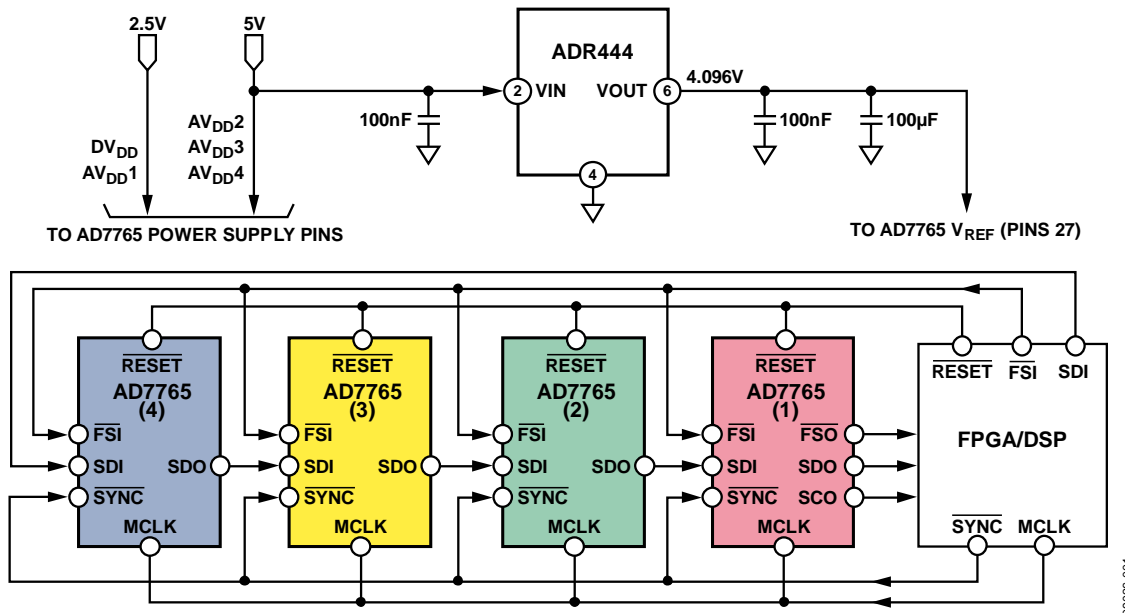
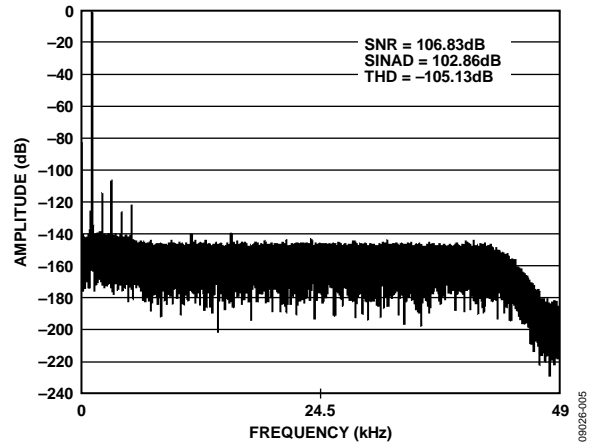

Figure 1. Four AD7765 ADCs in a Daisy-Chained Connection for Simultaneous Sampling (Simplified Schematic: All Connections and Decoupling Not Shown)
Figure 5. FFT Output for 1 kHz Input Signal with Sampling Rate of 97.65 kSPS, 25 MHz MCLK 100 μF Reference Star Point Capacitor. 131,072 Samples.
The circuit shown in Figure 1 provides a high dynamic range four channel simultaneous sampling system with high crosstalk isolation, flexible sampling rates, minimal external components, and simple interface connections to a DSP or FPGA. The circuit uses four AD7765 24-bit sigma-delta ADCs in a daisy chain configuration to minimize the number of connections to the digital host. The AD7765's fully integrated differential input/output amplifier, and reference buffer significantly reduce the external component requirement.
Each of the four AD7765 devices is clocked with a common sampling clock (MCLK), synchronization signal ($\overline{\text{SYNC}}$), and reset signal ($\overline{\text{RESET}}$) shown in Figure 1. A common 4.096 V reference supplied from ADR444 using the circuit shown in Figure 5 is applied using a star point configuration to each AD7765 (each ADC has an internal reference buffer).
Figure 5 shows the FFT output of AD7765 (3) running at a sampling rate of 97.65 kSPS operating from an MCLK frequency of 25 MHz with a 1 kHz (-0.5 dBFS) input. Table 1 shows the performance of the AD7765 at 40 MHz, 30 MHz, 25 MHz, and 20 MHz for Normal Power.